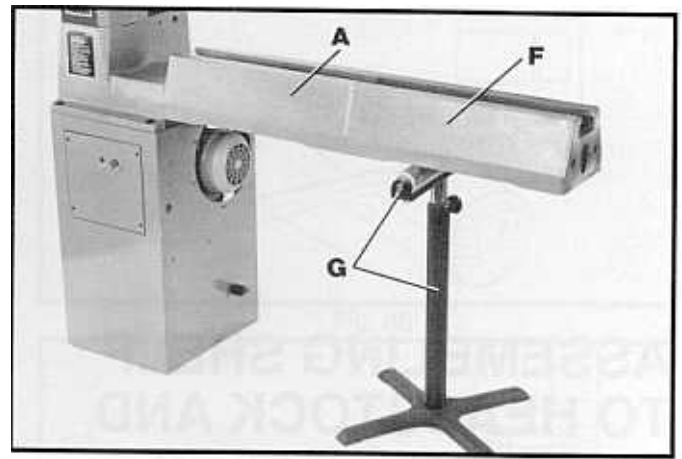

Fig. 9
5. Assemble remaining lathe bed section (F) Fig. 9, to bed section (A) in the same manner. **WARNING: A suitable support such as a roller stand (G) must be used to support bed section (F) during assembly, as shown.**